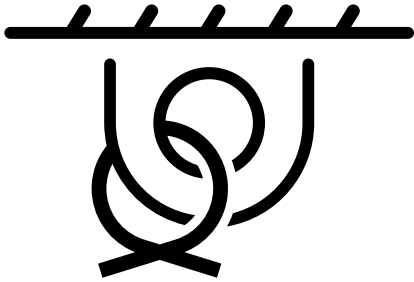

Figure 4. Tie-Dow Symbol
1. Locate the **tie-down symbols** (Figure 4) on each side of the trowel.